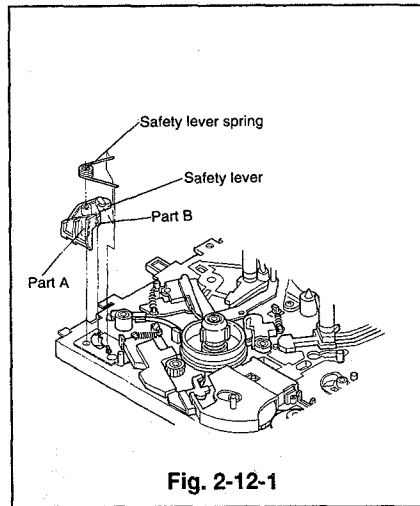

Fig. 2-12-1
- 1 Install the safety lever so that part A aligns with the hole on the main plate, shown in Fig. 2-12-1, and part B with the hole of the safety arm on the reverse side of the deck.